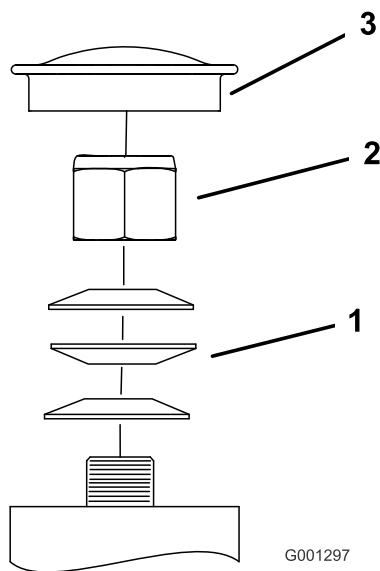

Figure 65
3. Remove the dust cap from caster and tighten lock nut (Figure 65).
4. Tighten the locknut until the spring washers are flat and then back off a 1/4 turn to properly set the pre-load on the bearings (Figure 65).
Important: Make sure the spring washers are installed correctly as shown in Figure 65.
5. Install the dust cap (Figure 65).